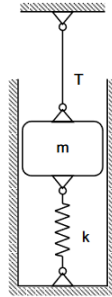

Figure 6
- 6) A 5 kg block is attached to a cable and to a spring as shown in Fig. 6. The constant of the spring is $k = 3$ kN/m and the tension in the cable is 30 N. When the cable is cut,